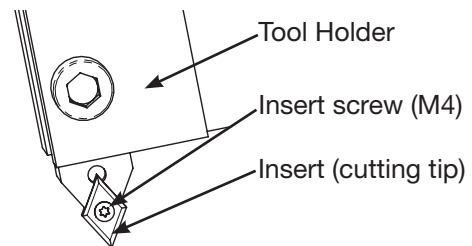

Figure 21: Insert and holder
2. Loosen 4 button head screws on the carriage. This will loosen the slide-way grip so it is easier to remove from the rail guides, see figure 21.